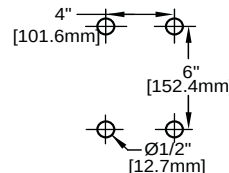

Figure 5, Mounting Hole Pattern
3. Using the hole pattern in Figure 5, mark and drill appropriate pilot holes into mounting surface. Note: Be sure the mounting fasteners directly engage with the wall or ceiling load bearing structure.